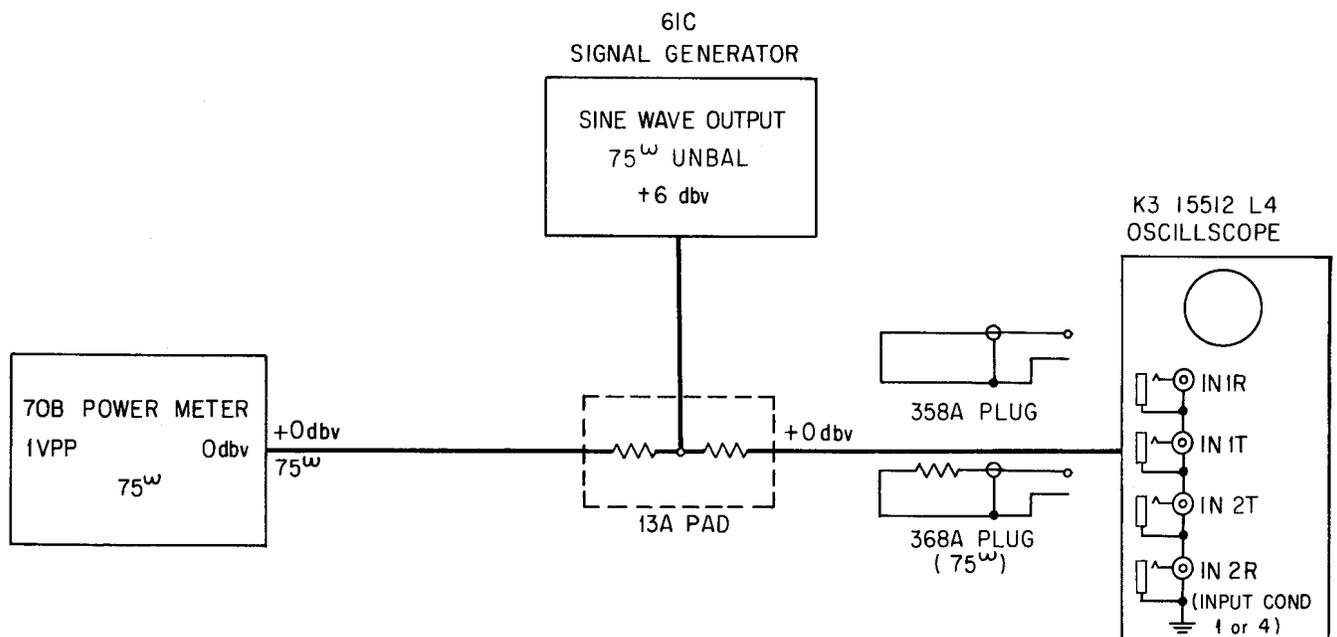

Fig. 8 — Calibrated Voltage Check
10.03 Use the equipment arrangement illustrated in Fig. 8 to obtain 1V, P-P calibrated signal for the oscilloscope.